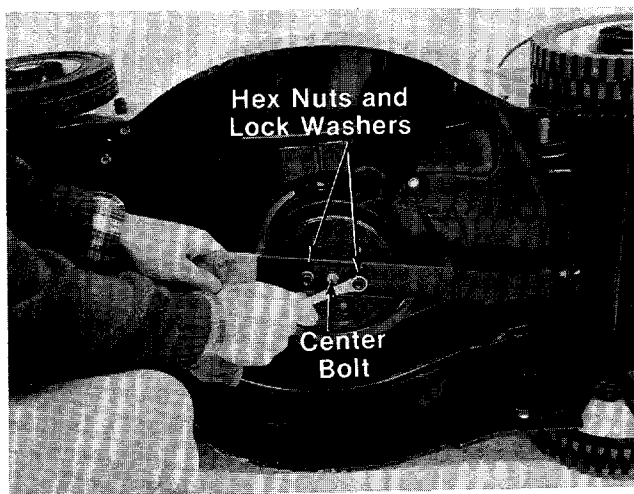

FIGURE 19.
To remove the cutting blade for sharpening or replacement, remove the two hex nuts and lock washers which hold the blade to the blade brake/clutch. See figure 19.
7. Tip the mower on its side. Remove the blade by removing two hex nuts and lock washers. Refer to figure 19.